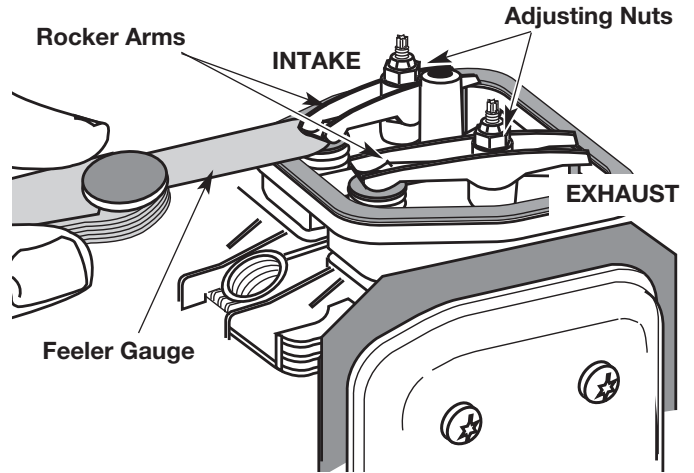
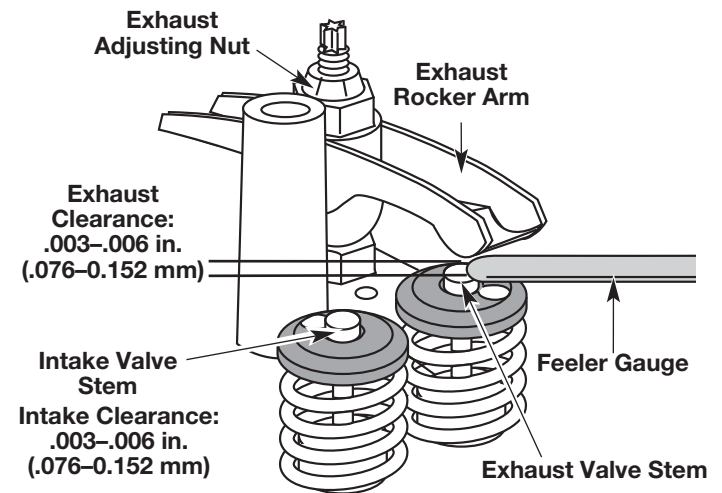

Fig. 54
Fig. 55
- Slide the feeler gauge between the rocker arm and the valve return spring. Measure the clearance between the valve stem and rocker arm (Fig. 54). Measure both the intake and exhaust valves.
Use a standard automotive feeler gauge at .005 in. (0.127mm). The feeler gauge should slide between the rocker arm and valve stem with a slight amount of resistance, without binding. Figure 54 shows how to measure the clearance, while Figure 55 shows the measured clearance.
- Turn the adjusting nut using a 5/16 inch (8 mm) wrench or nut driver (Fig. 55).